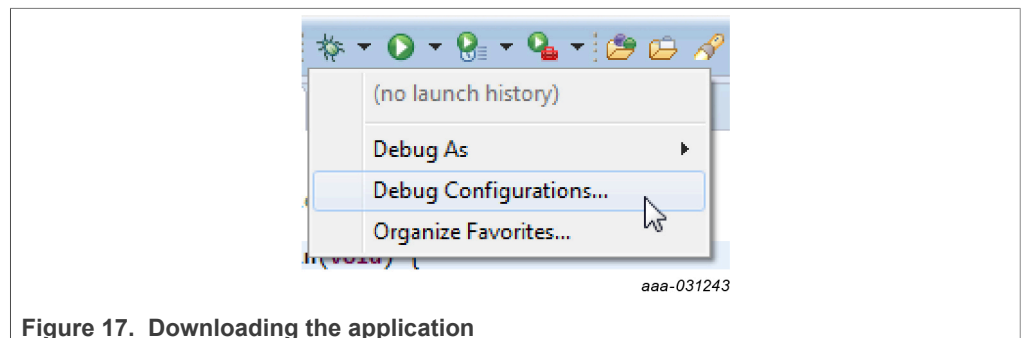

Figure 17. Downloading the application
1. Click the arrow next to the debug icon in the toolbar and click **Debug Configurations...**. See Figure 17.